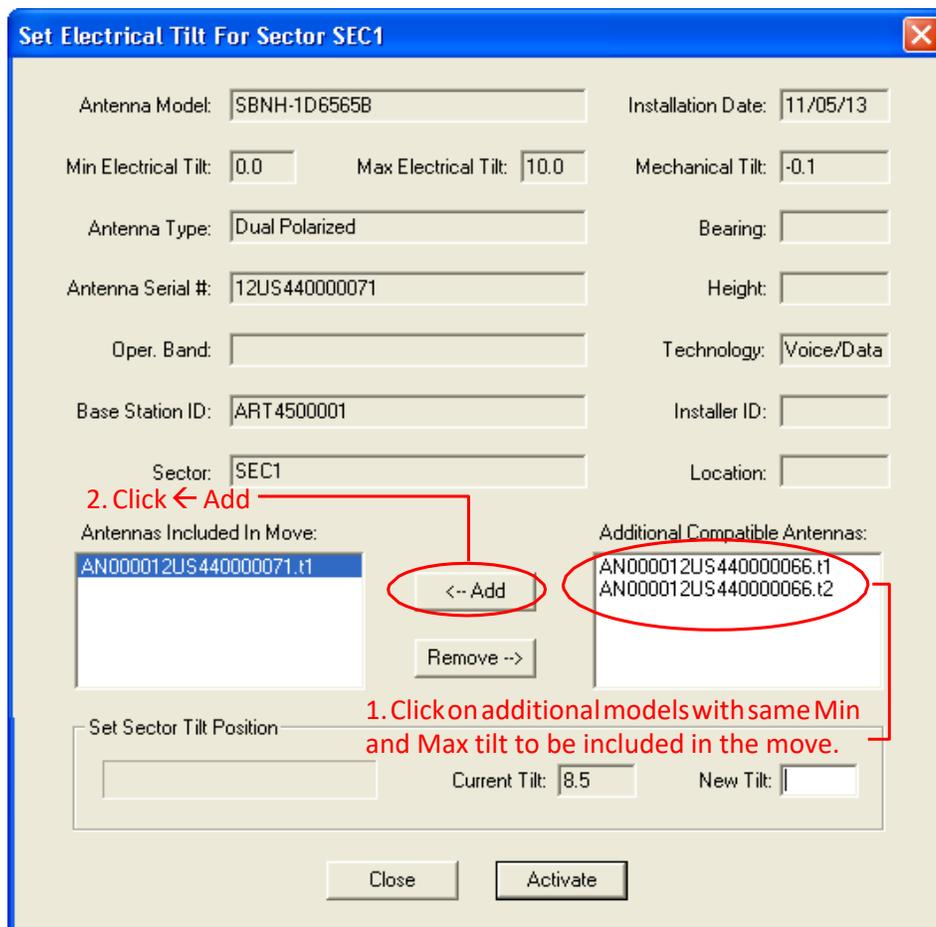

Figure 8-7. Adding Devices to be Included in the Sector Move.
4. From the **Set Electrical Tilt for Sector** screen, notice that the selected device is highlighted and displayed in the box labeled **Antennas Included In Move**. This box displays a list of all devices that will be included in the sector move. Initially, this box contains only the antenna that was selected from the main screen. All of the current configuration settings for this device, including its current tilt, are displayed on this screen (Figure 8-7).
- Double click on the device to immediately move it to the **Antennas Included In Move** box (Figure 8-7).